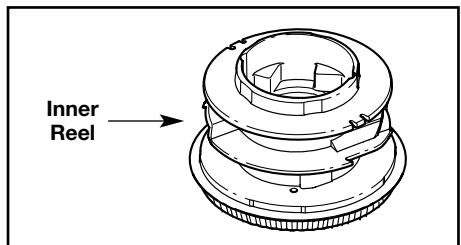

Fig. 21
- Remove any debris or grass from the knob, spring, inner reel, and foam seal. Remove any existing line from the inner reel before cleaning. Wash the inner reel with warm soapy water (Fig. 21).